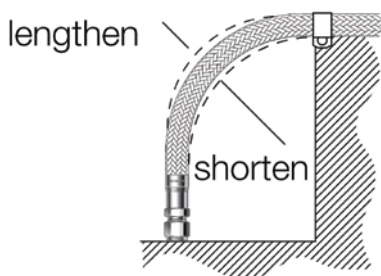

FIGURE 5. If a hose is too short, it may allow for increased strain during impulses
- Allowing insufficient hose length so the hose is strained during impulses (Figure 5)